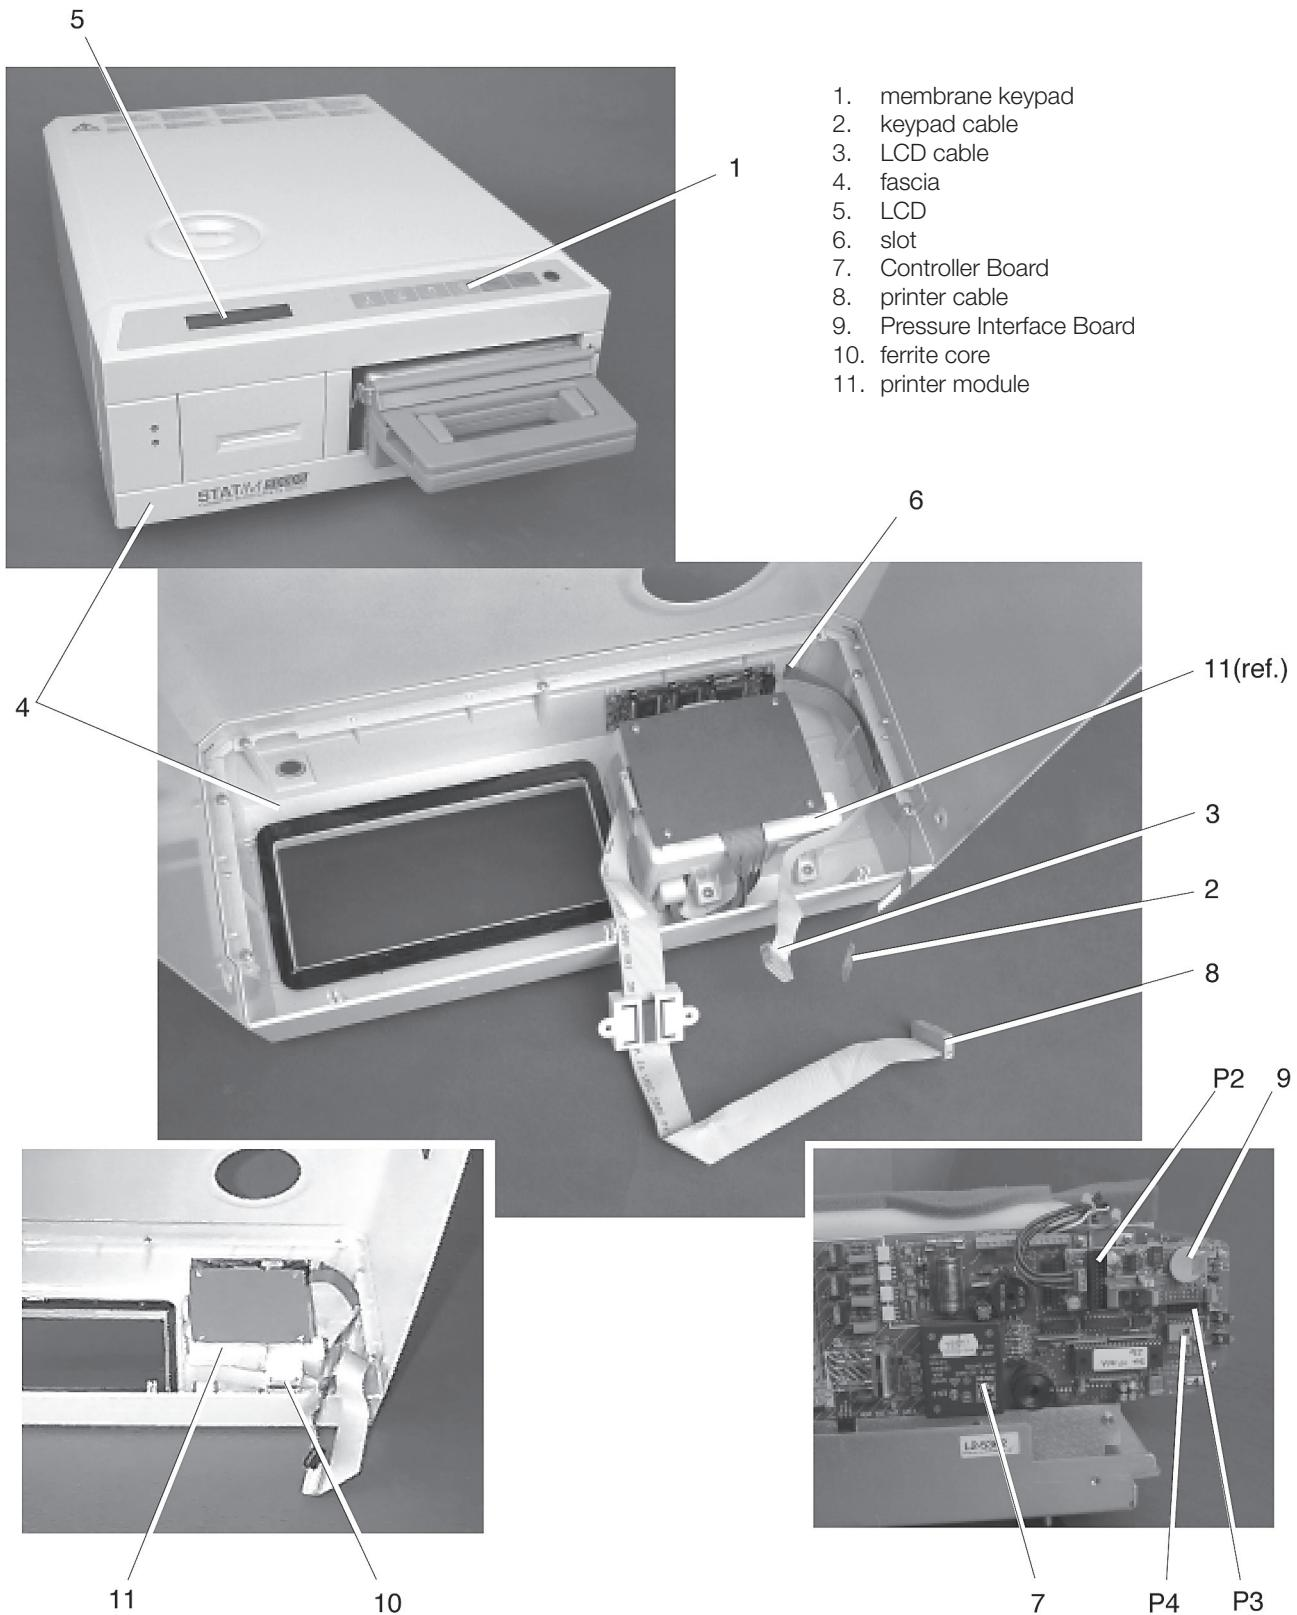
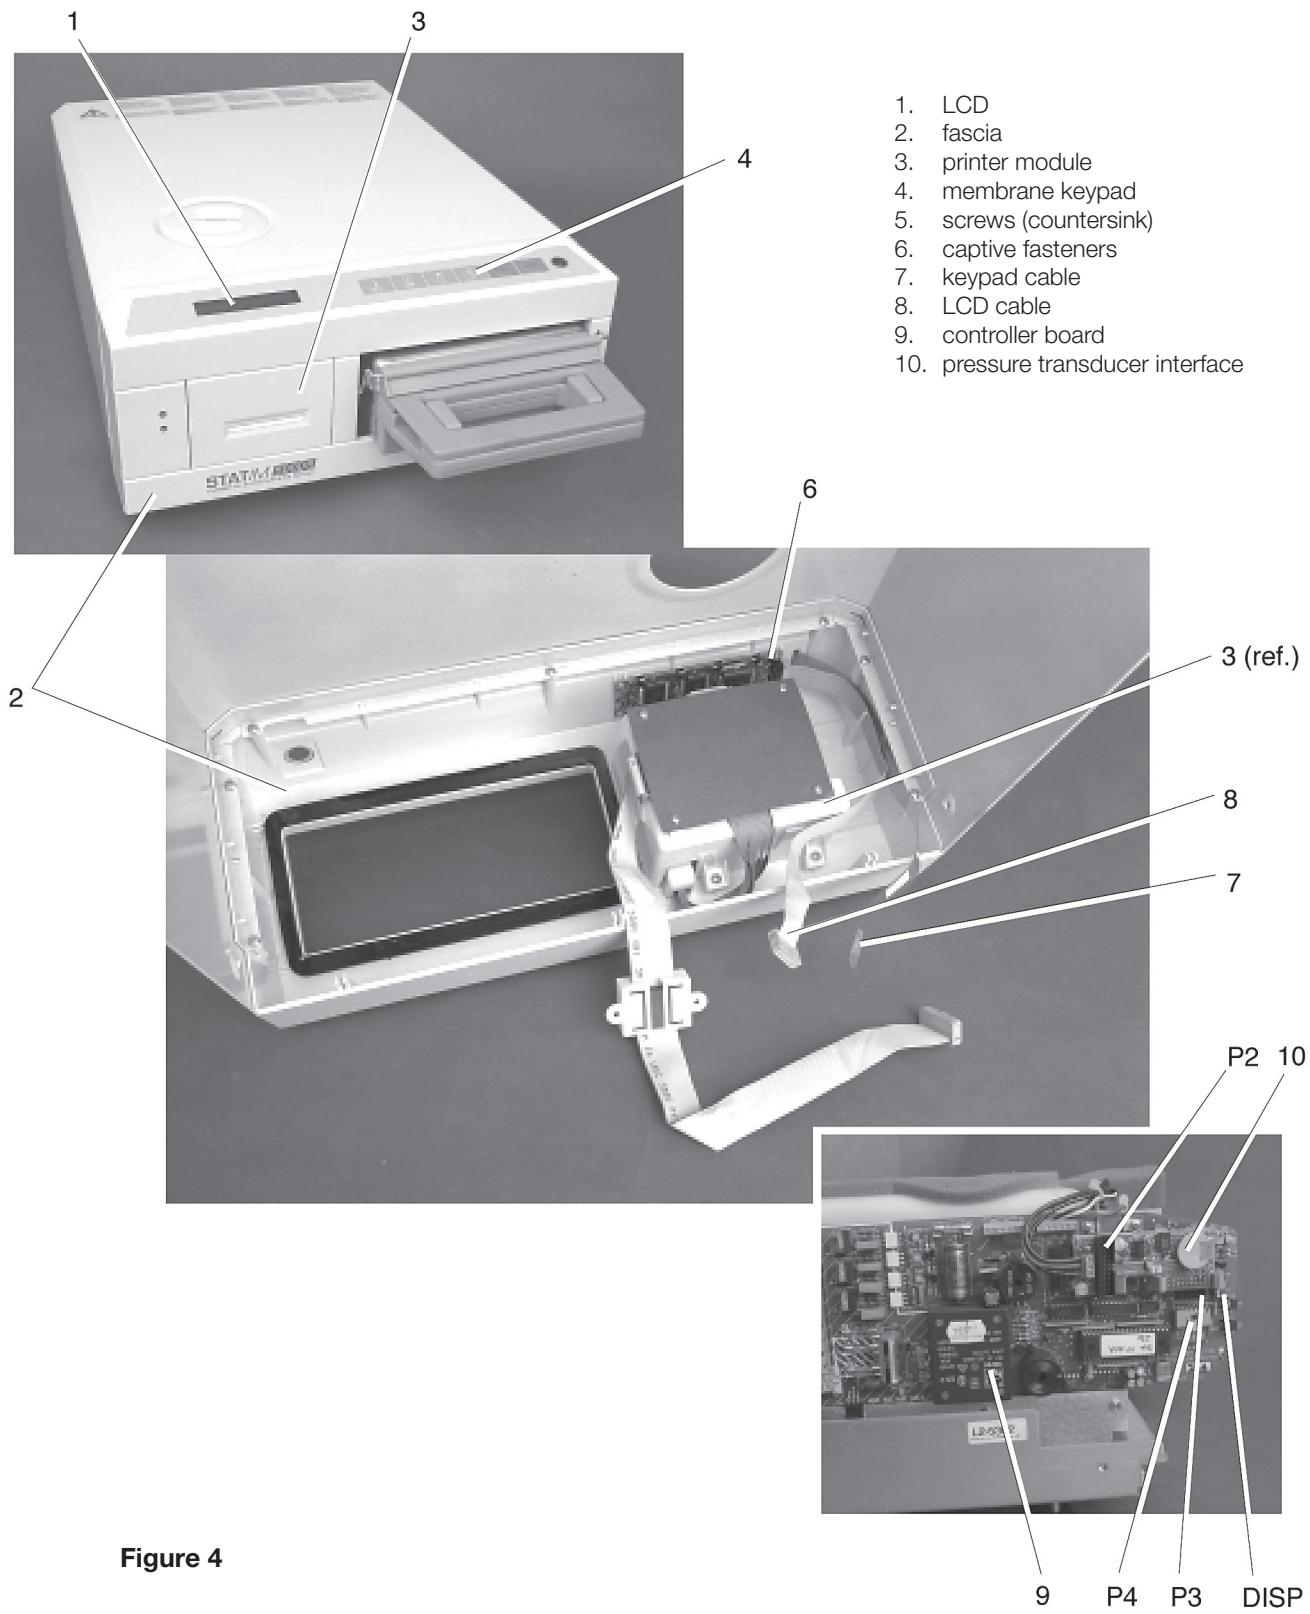

Figure 3
Figure 4
To remove the membrane keypad (1), proceed as follows (see Figure 3):
1. The keypad flexible cable (2) and the LCD ribbon cable (3) are secured together with double sided adhesive tape. Carefully separate the cables.
2. Using a sturdy sharp instrument, carefully lift one corner of the membrane keypad and CAREFULLY peel the membrane keypad away from the fascia (4). USE CAUTION, there may be adhesive on the edges of the LCD (5). Pass the connector through the slot (6) in the fascia.
To replace the membrane keypad (1), proceed as follows (see Figure 3):
1. The replacement membrane keypad has carrier paper on the back to protect the adhesive. With the carrier paper in place, feed the keypad cable (2) connector through the slot (6) in the fascia (4).
4. Connect the keypad cable connector to controller board (7) P4.
6. Connect the printer cable (8) connector, if present, to controller board P2 or pressure interface board (9) connector P2, if present. The printer cable in Figure 3 shows a ferrite core (10). This core may or may not be present. If present, the core must be attached to the wall of the printer module before replacing the cover.
To remove the LCD (1) from the fascia (2), proceed as follows (see Figure 4):
1. If present, remove the printer module (3). See section 12. Printer, Removing the Printer Module.
2. Carefully remove the membrane keyboard (4) from the fascia. See Membrane Keypad Removal and Replacement, above.
3. Using a Phillips screw driver remove and retain the four countersink screws (5) securing the LCD to the fascia. Each screw is held by a captive fastener (6) which is integral to the LCD assembly.
4. The keypad cable (7) and the LCD cable (8) are secured together with double sided adhesive tape. Carefully separate the harnesses and remove the LCD.
To replace the LCD (1), follow these steps (see Figure 3):
1. Align the captive fasteners (6) on the LCD with the four clearance holes in the fascia (2) and reinstall the LCD using the four countersink screws (5) retained from disassembly. The LCD cable (8) and the keypad cable (7) are on the same side of the cover.